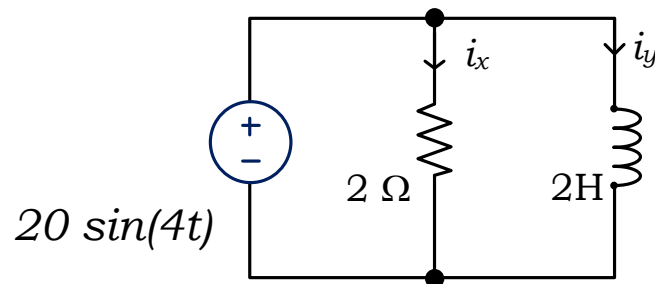

Figure 19
1. Build the circuit of Fig. 19 in *Multisim Electronics Workbench*.